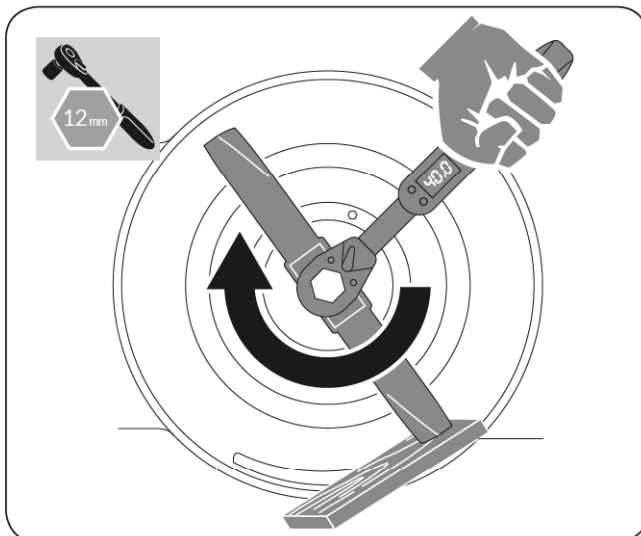

Figure 20
5. Install the new blade. Use a block of wood between the blade and lawn mower housing and tighten the blade bolt, turning clockwise. The recommended tightening torque is 33.3-40 ft.-lb. (45-55 Nm). (See **Figure 20**)